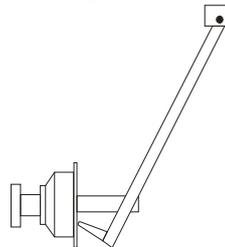

Figure 8-1
- 8.2.3 Moving the measuring scale, rotating the handle bar and make the ruler head to the endge of the rim inside shown as Figure 8-1, press [ALU] and put back the measuring scale when LCD screen prompt ending calibration.
- 8.3.3 According to the prompts, swing the width scale, and make the ruler head to the flange of the main shaft shown as Figure 8-1, press [ALU] and put back the measuring scale when LCD screen prompt ending calibration.